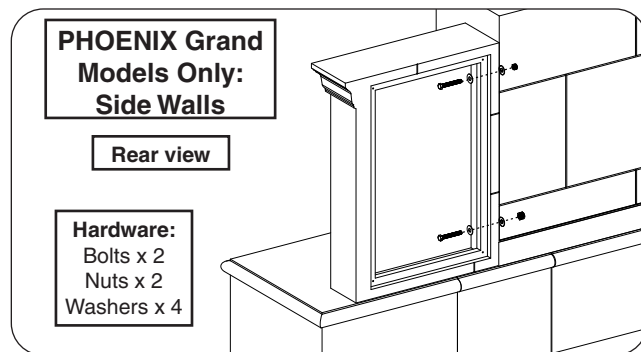

Fig. 26-1 Assemble side-wall (skip if n/a)
1. Place one main side-wall piece beside the fireplace body as shown. Carefully align the pilot holes, and repeat the hardware installation process. See Fig. 26-1.